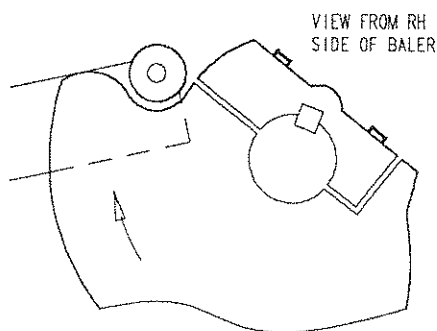
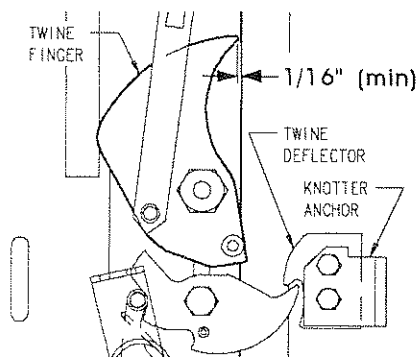
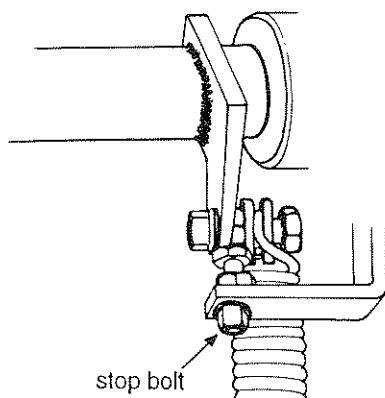

Fig. 25
Fig. 26
Fig. 27
4. Next rotate the knotter assembly until the cam rollers are off the cam surface as shown in **Fig. 25**. At this point, push the twine fingers by hand toward the needle slots to take up the slack in the assembly. Adjust so the twine finger tips are **1/16" minimum**, some may be more, from the left edge of the needle slots as shown in **Fig. 26**. Make this adjustment with the stop bolts, both LH and RH, located at either end of the twine finger drive shafts. See **Fig. 27**.
NOTE: The twine finger drive cams should be checked to ensure that both cam rollers, (followers), initiate contact with the cam surface at the same time. If required, adjustment is made by appropriate loosening of one and tightening of the other cam clamping bolt located on each cam. See **Fig. 25**.
Note top view of deflector in **Fig. 26**. Make sure the clearance around the tip between the knot sensor finger and the deflector is uniform and from 1/32" to 3/32". If adjustment is necessary, loosen the nuts on the knotter anchor, reposition the deflector and retighten the nuts. Note this adjustment may effect the knotter hold down pin hole position.